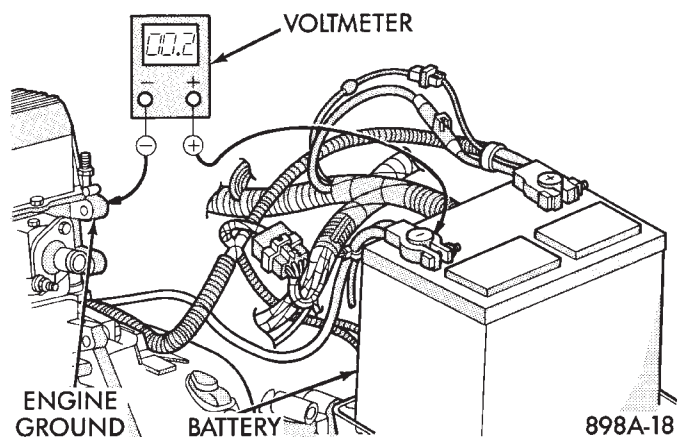

Fig. 14 Test Ground Circuit Resistance - Typical
(4) Connect the voltmeter to measure between the battery negative terminal post and a good clean ground on the engine block (Fig. 14). Rotate and hold the ignition switch in the Start position. Observe the voltmeter. If the reading is above 0.2 volt, clean and tighten the battery negative cable attachment on the engine block. Repeat the test. If the reading is still above 0.2 volt, replace the faulty battery negative cable.